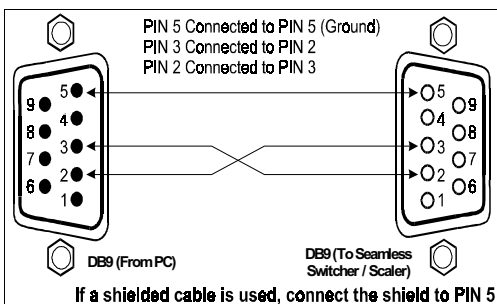

Figure 2: Connecting the PC
- Connect the RS-232 DB9 port on your PC to the RS-232 DB9 rear panel port on the **VP-719DS** unit, forming a cross-connection¹, as Figure 2 illustrates